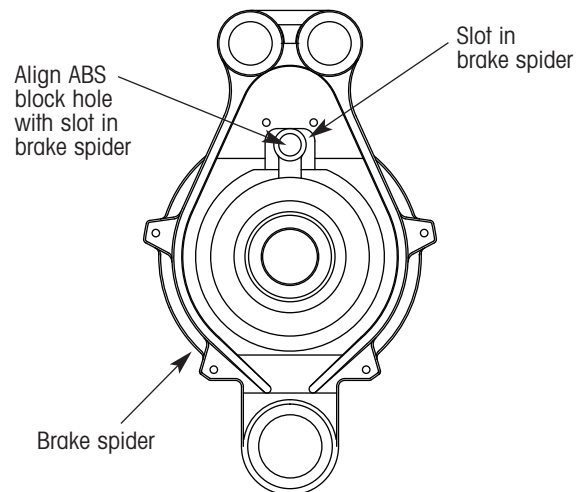

Figure 2. Aligning the ABS block with the brake spider slot
4. To position the ABS block around the outside diameter of the axle, align the center of the ABS block hole with the center of the slot in the brake spider. Refer to figure 2.